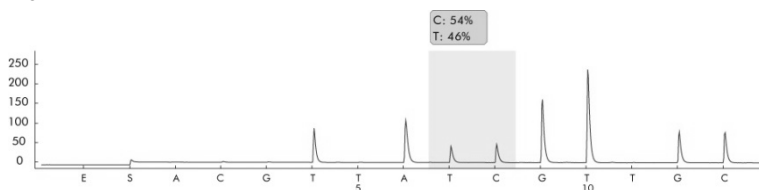

Figure 7. Pyrogram of Run 2.
48. Open the run in the ▲ PyroMark Q24 Software or the ■ PyroMark Q24 Advanced Software and analyze all wells. The peak pattern for Run 2 should look like the one in Figure 7.